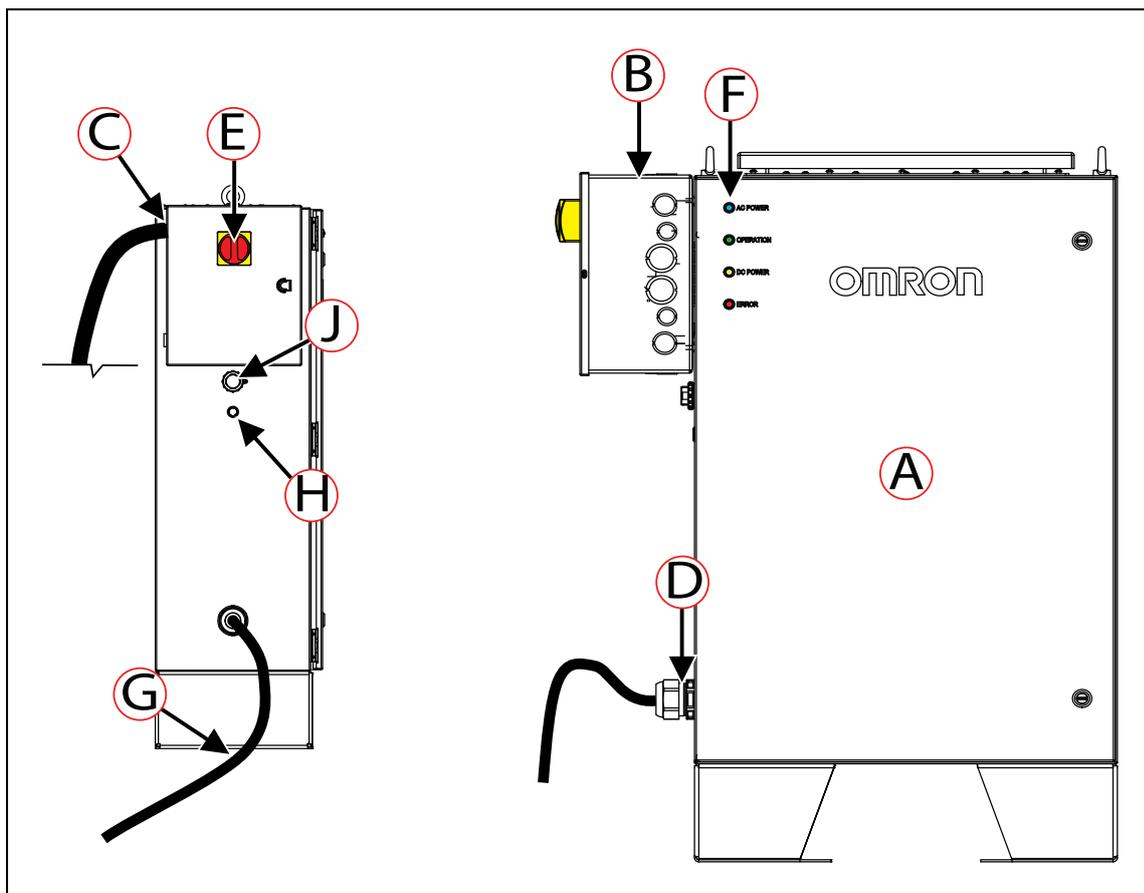

Figure 3-69. Power Supply Box - Features and Parts
- The facility power cable ((C) in Figure 3-69. must be secured to the Figure 3-69.
| N/A         | 1           | Cable clamp Figure 3-69.  |
There are four LED indicators on the power supply box, as displayed in Figure 3-69. For information on the power supply box LED indicators, see: Indicators, Controls, and Connections on page 193.
The power supply box can be mounted directly to the floor, or to the wall using user-supplied screws. For dimensions of the available mounting holes, refer to Figure 3-69. OMRON recommends using screws that are suitable for the substrate (wood, concrete, etc.).
The power supply box is a permanently connected equipment, and therefore, the user must supply the power cord transferring power from the facility into to the electrician access box. The user must punch a hole through the electrician access box (location (C) in Figure 3-69. ), and install the user-supplied strain relief for the power cord. The strain relief attaching to the electrician access box is a user-supplied part, and shall be sized appropriately for the user-supplied power cord.
As displayed in Figure 3-69, the main disconnect switch is located on the electrician access box, and controls electrical current flow into the power supply box. When the switch is in the horizontal position, it is off and when it is in the vertical position it is on. See: Figure 7-10. The power supply box input electrical power is protected by a 25 A branch rated circuit breaker.